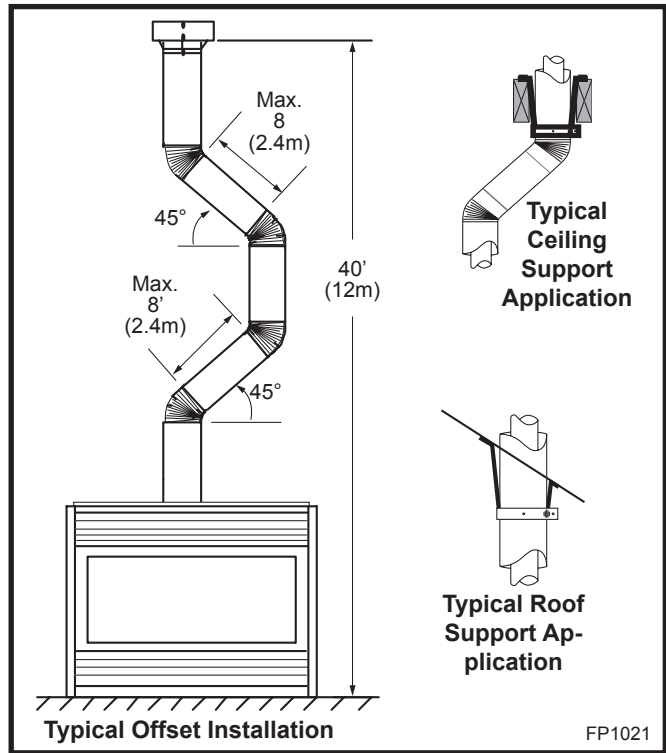
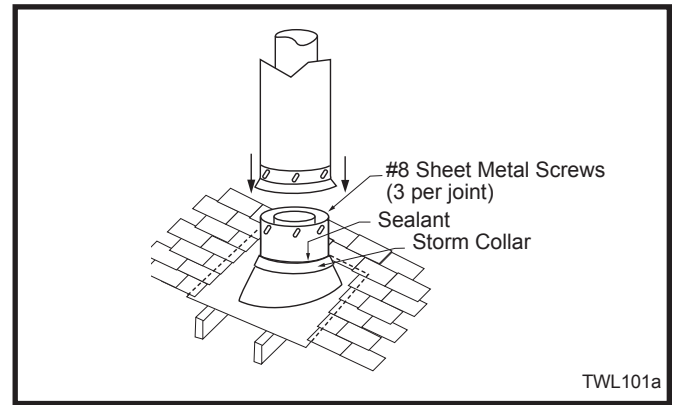

Fig. 35 Typical offset application.
Fig. 38 Roof flashing.
- Two sets of 45° elbows offsets within these vertical installations. From 0 to a maximum of 8' (2.4 m) of vent pipe can be used between elbows. (Fig. 35)
- 7DVCS must be used to support offsets. (Fig. 35) This application will require that you first determine the roof pitch and use the appropriate starter kit. (Refer to Venting Components List)
7. Install roof support (Fig. 35) and roof flashing making sure upper flange of flashing is below the shingles. (Fig. 38)
8. Install appropriate pipe sections until the venting is above the flashing. (Fig. 38)
The enlarged ends of the vent section always face downward. (Fig. 38)